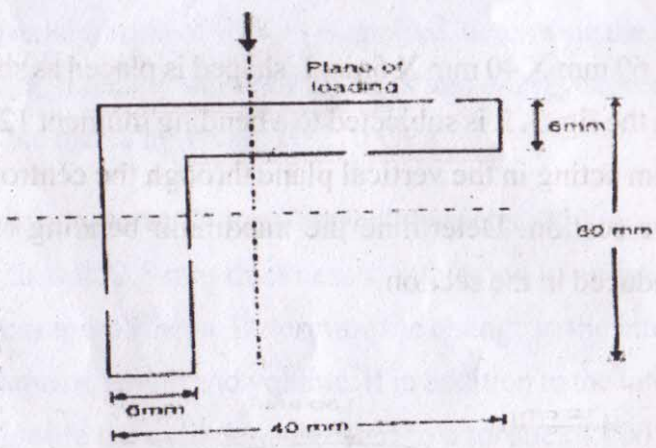

fig: 3
12. A 60 mm X 40 mm X 6mm L shaped is placed as shown in the fig. 3. It is subjected to a bending moment 12 kN-mm acting in the vertical plane through the centroid of the section. Determine the maximum bending stress induced in the section.